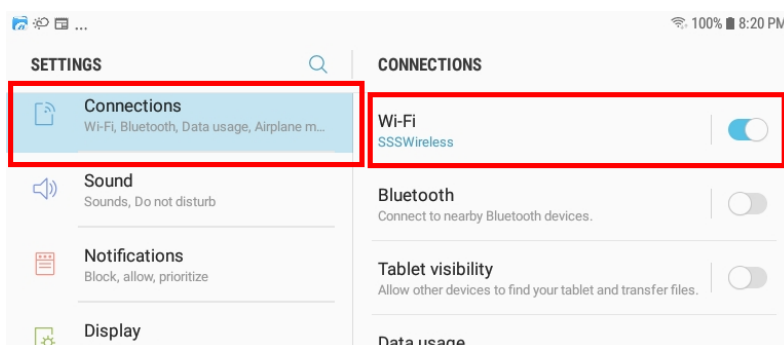

Figure 13 The Wi-Fi Connection page in the Android Settings app
- (3) Make sure your WDMI-27 is properly installed in a locomotive together with a DCC decoder whose DCC Address you know. Power up the locomotive on track with your battery.
- (4) Tap the Home button, and run the settings app on your Android phone.
- (5) Tap Connections on the left, then Wi-Fi on the right as Figure 13 (This may vary with different versions of Android).